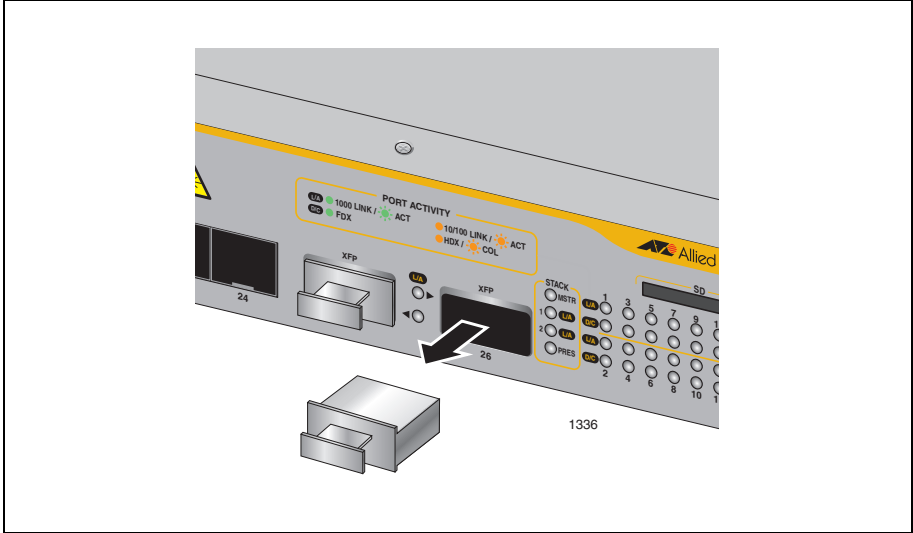

Figure 36. Removing an XFP Dust Plug
1. Remove the dust plug from a transceiver slot on the switch. Refer to Figure 36.